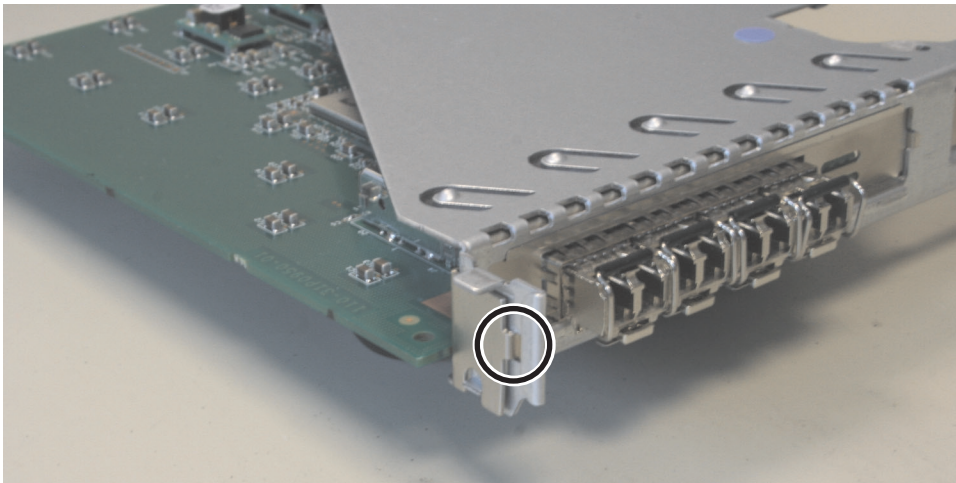

Figure 174. SAN Volume Controller 2145-8A4 riser-card assembly
5. Grasp the riser-card assembly at the front and rear edges and lift to remove it from the node. Place the riser-card assembly shown in Figure 174 on a flat, static-protective surface.